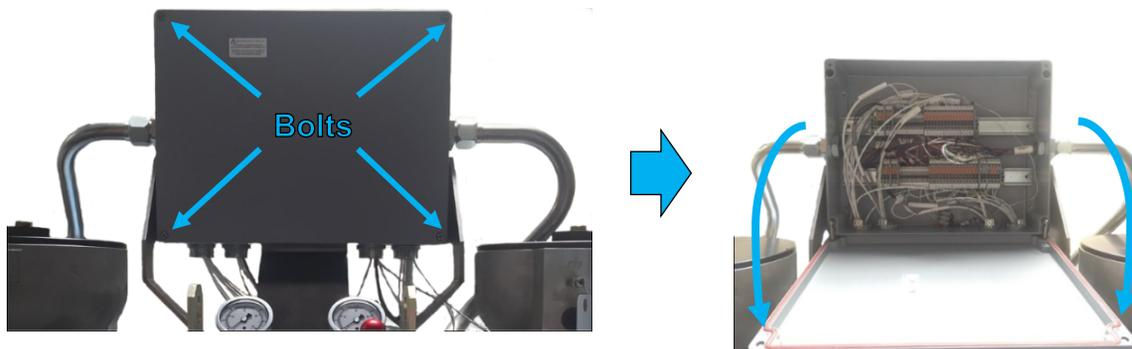

Figure 2-3. VS-DX J-Box Opening
8. Open the junction box by unscrewing all four bolts from its front cover (use slotted screwdriver; **5.5 X 0.8 mm** tip size) (Figure 2-3).